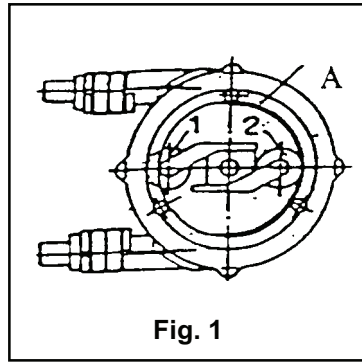

Fig. 1
- One of the main characteristics of the pressure hose pumps is that they are suction operated and, consequently, it is advisable to install them as shown in Fig. 1.
1) Remove cover A and verify that the rotor roller 1, marked by means of a label, is as indicated on fig. 1